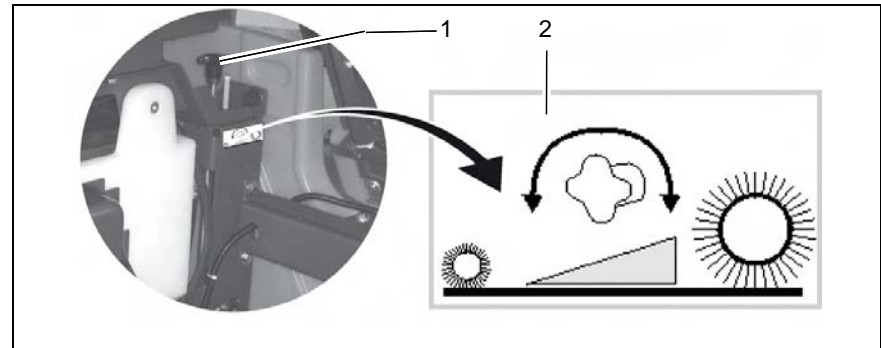

Fig.13
The sweeping track width can be adjusted at the star-shaped knob (Fig. 13/1) as follows:
- Turn star-shaped knob (Fig. 13/1) to the left = wider sweeping track to the right = smaller sweeping track (Sweeper adjustment sticker (Fig. 13/2))